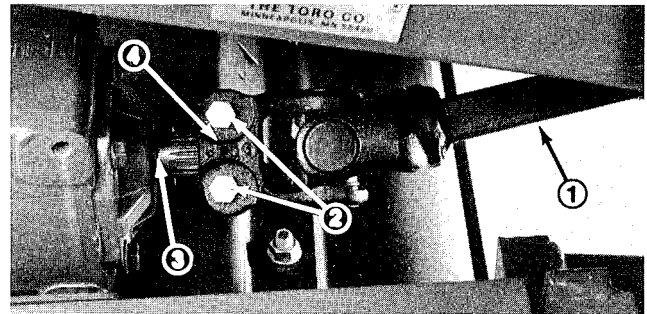

Figure 7
2. Stop engine, slide cutting unit under frame, slide male PTO shaft in female PTO shaft. Align gearcase input shaft with PTO shaft and slide together. Secure with roll pin and tighten bolts and locknuts (Fig. 7).